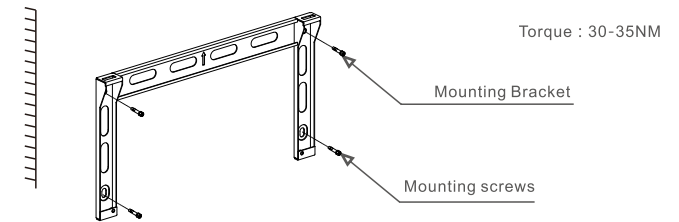
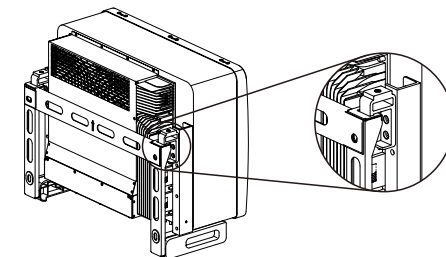

Figure 3.6 Inverter wall mounting
Figure 3.7 Install the inverter
Refer to figure 3.6 and figure 3.7 Inverter shall be mounted vertically.
1. Refer to Figure 3.6, drill holes for expansion bolt(M10\*90) based on the hole diameter of bracket using a precision drill keeping the drill perpendicular to the wall. Max depth is 90mm.
2. Make sure the bracket is horizontal. And the mounting holes (in Figure 3.6) are marked correctly. Drill the holes into wall at your marks.